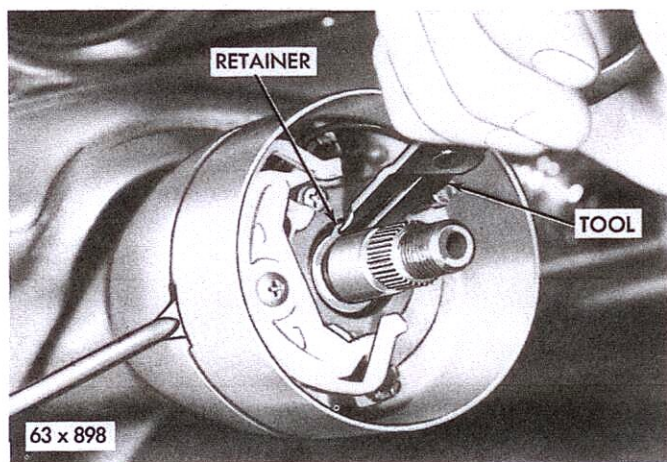

Fig. 13 - Removing Bearing Retainer Ring
- (1) Disconnect the negative (ground) cable from the battery.
- (2) Compress and turn the horn button 1/4 turn counterclockwise to release the horn button from the retainer.
- (3) Disconnect the horn wire at the horn blowing switch.
- (4) Remove the three (3) screws and insulators attaching the horn ring and horn blowing switch to the steering column. Remove the horn ring and switch.
- (5) Loosen the steering wheel nut several turns and install the steering wheel puller Tool C-3428 and remove the steering wheel nut and steering wheel.
- (6) Remove the two bolts attaching the steering jacket tube clamp at the instrument panel and remove the clamp.
- (7) Disconnect the directional switch wiring at the multiple connector below the instrument panel.
- (8) Remove the screws attaching the dust pad to the floor panel and slide the dust pad up on the jacket tube.
- (9) Loosen the jacket tube clamp at the steering gear housing.
- (10) Remove the retainer snap ring from the groove in the steering tube at the top of the bearing using Pliers Tool C-3128 (Fig. 13).
- (11) Reinstall the steering wheel nut on the upper steering tube to protect the threads. Then while pulling up on the jacket tube, tap the steering wheel nut with a fibre hammer. This action will force the bearing from the splines on the steering tube.
- (12) Pry between the jacket tube clamp and the steering gear housing to loosen the jacket tube from the column jacket support rubber insulator boot.
- (13) Slide the jacket tube assembly rearward and off the steering tube.